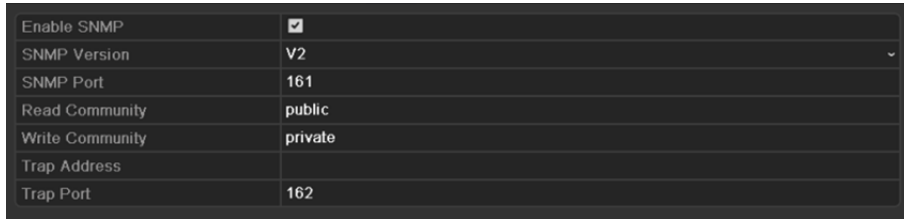

Figure 12-9 SNMP Settings Interface
Step 2 Select the **SNMP** tab to enter the SNMP Settings interface, as shown in Figure 12-9.